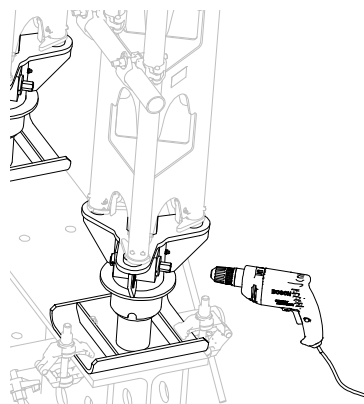

Fig. 21
2. In order to lower the 200 Heavy-Duty Props, lower the Lowering Devices sequentially in small increments by turning the Driving Bolts (1.2) counter-clockwise. Take the lowering plan into consideration! (Fig. 21)